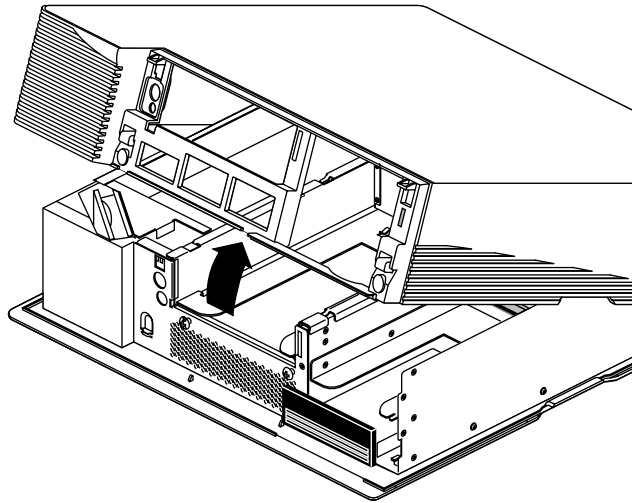

Figure 3-21 Removing the Top Cover
- Pull up on the cover and lift it back and away from the chassis, as shown in Figure 3-21.